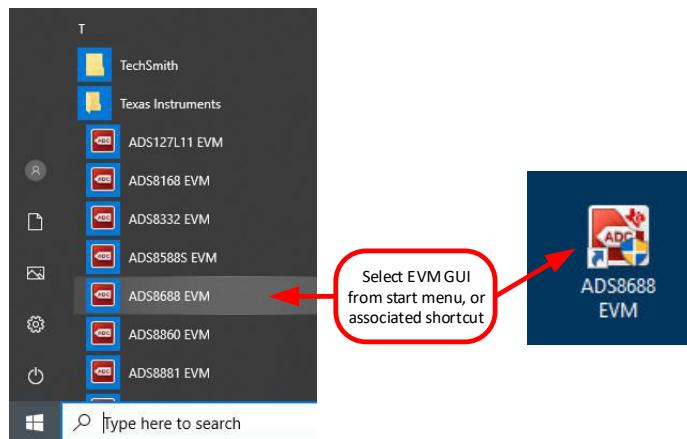

Figure 7-2. Launch the EVM GUI Software
3. Start the software GUI as shown in Figure 7-2. You will notice that the LEDs blink slowly as the FPGA firmware is loaded on the PHI. This will take a few seconds then the AVDD and DVDD power supplies will turn on.